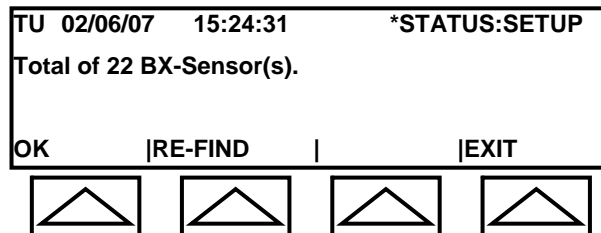

Fig. 4-9d: Config. – Search Results
3. When the search is completed, the LCD will display the total number of sensors found as illustrated in Figure 4-9d.
1. Select OK in the Config. – Search Results Screen (see Figure 4-9d).
2. After the system has completed searching for sensors, select OK in the Config. – Search Results Screen (see Figure 4-9d).